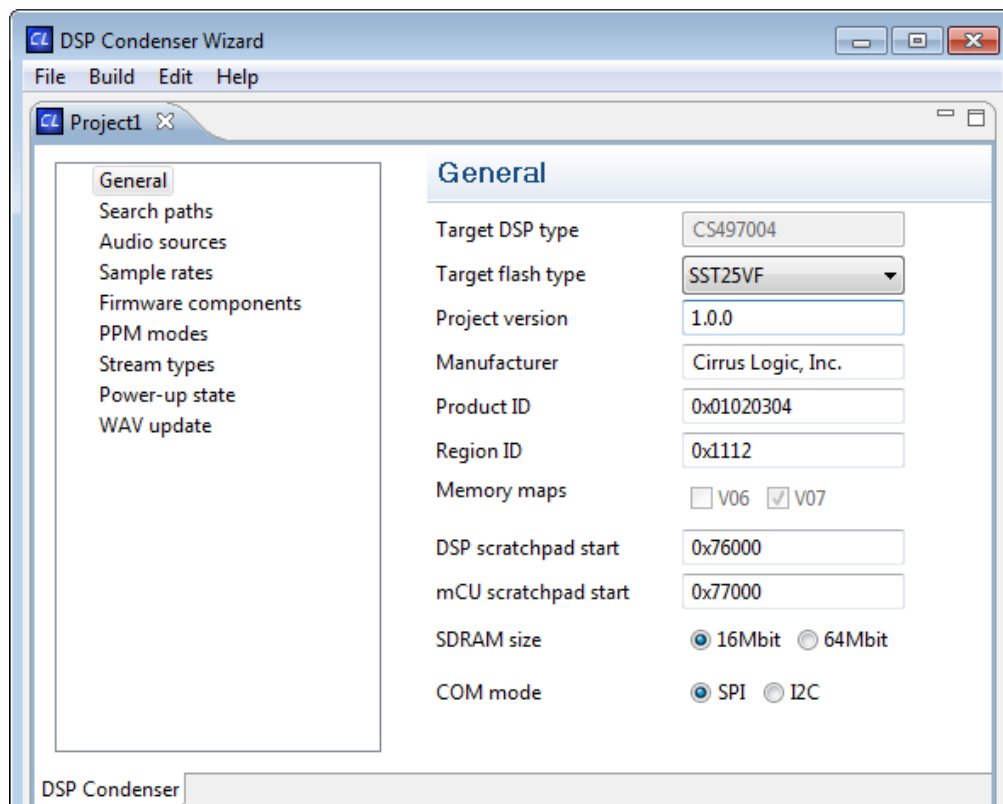

Figure 8-17. New Project Window in DSP Condenser
5. Click OK and the main screen of the new project window in DSP Condenser should appear as shown in Figure 8-17. Ensure that the window that opens is maximized to show all the fields.